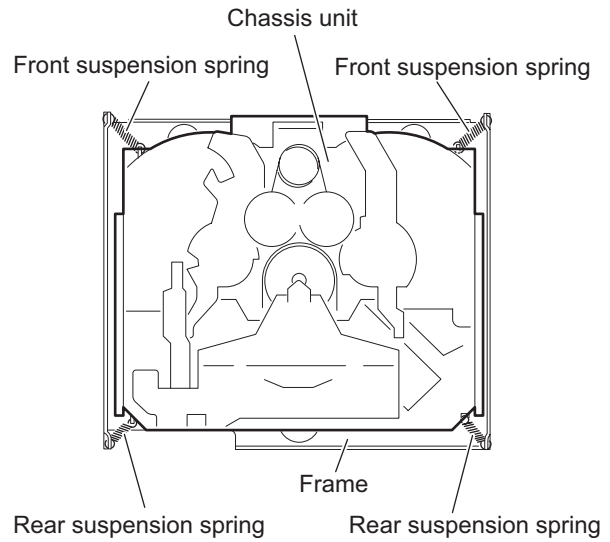

Fig.5
3.2.4 Removing the chassis unit (See Figs.5 and 6)
- From the top side of the CD mechanism assembly, remove the front suspension springs and rear suspension springs attaching the chassis unit to the frame. (See Fig.5.)
- Pay attention to misuse and loss of each spring. (See Fig.5.)